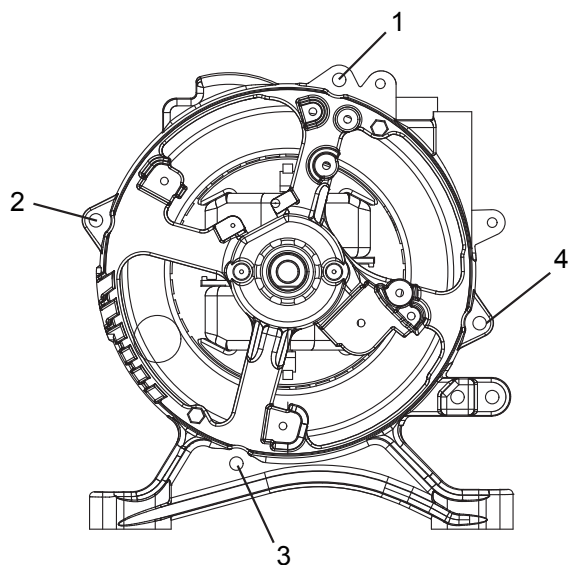

Figure 136.
- e. Tighten the stator holding bolts in the proper sequence to the proper torque. Refer to Figure 136.